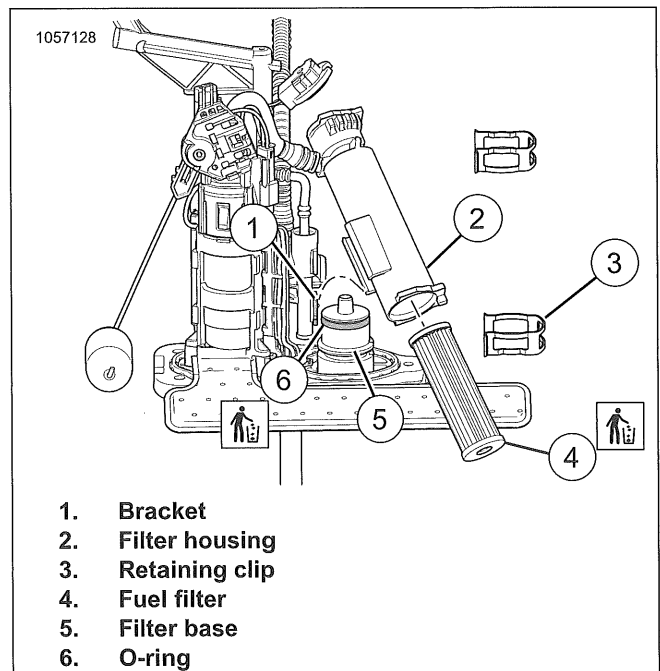

Figure 6-23. Fuel Filter
2. See Figure 6-23. Remove filter housing.
- a. Remove retaining clip (3).
- b. Remove filter housing (2) from filter base (5).
3. Remove and discard fuel filter (4).
4. Remove and discard O-ring (6).
1. See Figure 6-23 Install **new** filter (4).
2. Install **new** O-ring (6).
- a. Install filter housing (2) onto filter base (5) and bracket (1).
- b. Install filter housing retaining clip (3).